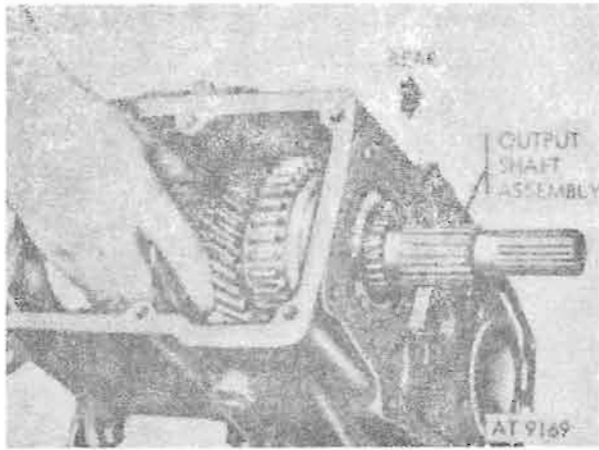

Figure 8-36. Removing output shaft assembly.
i. Slide output shaft assembly rearward and lift from transmission case (fig. 8-36).